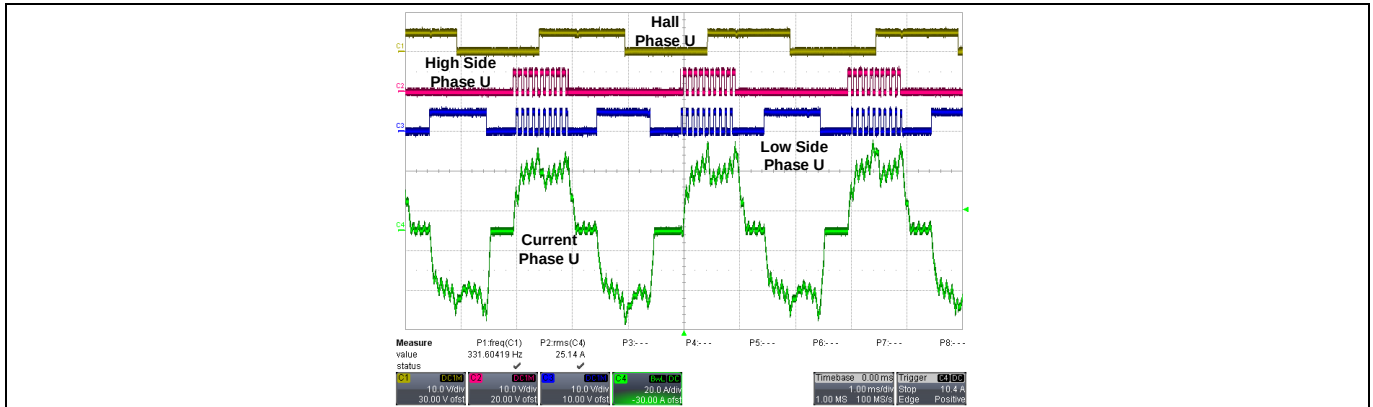
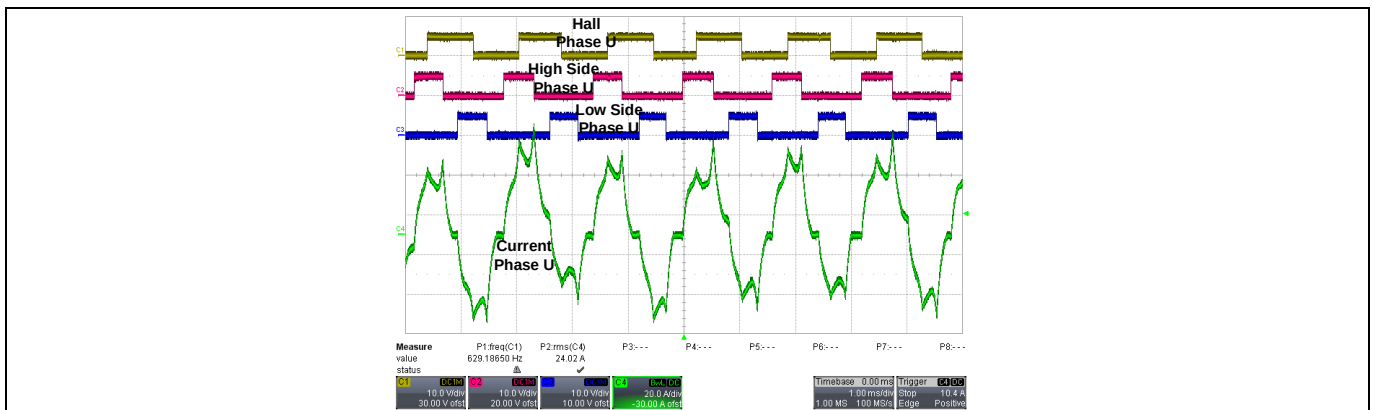

Figure 39 Phase U signals and output current waveform for synchronous rectification mode at 10000 RPM rotor speed and 25ARMS output current (5.0 Nm)
Figure 40 Phase U signals and output current waveform for synchronous rectification mode at 20000 RPM rotor speed and 25ARMS output current (3.5 Nm)
For two different rotor speeds, 10000 RPM and 20000 RPM, both measured at no load, and approximately 25ARMS flowing through the inverter output terminal, Figure 39 and Figure 40 illustrate the in-house setup test results. The hall sensor output of the phase U is illustrated in the first oscilloscope channel (yellow trace), high side and low side gate signals in the second and third channels (magenta and blue traces), respectively. Output current for the same phase (U) is depicted in the last channel (green trace). Frequency and RMS current measurements are also included in the waveforms.